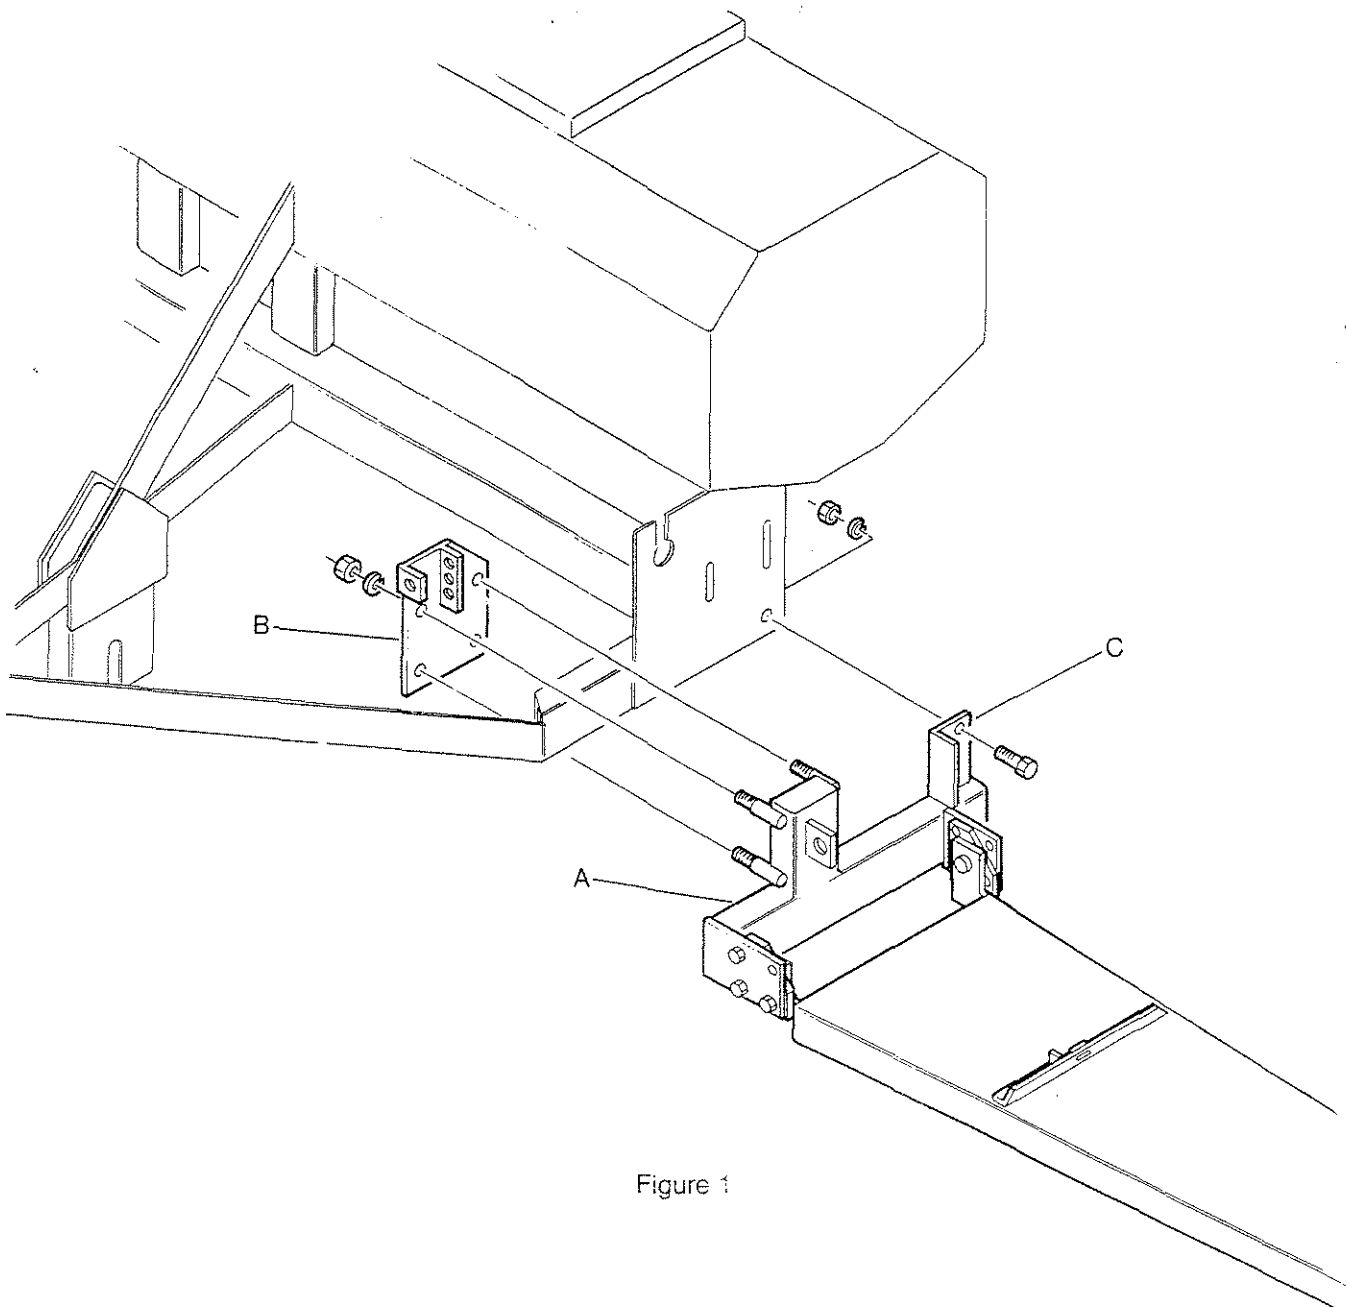

Figure 1
1. Support Marker horizontally at level of drill box. Attach Marker Main Mount (A) around horizontal 2" x 4" tube and slide into Mounting Plate (B). Hand tighten four  $\frac{3}{4}$ " lockwashers and hex nuts (see fig.1).
2. Align hole in Main Mount Angle (C) to rear hole in box End Plate and attach with a  $\frac{5}{8}$ " x 1 $\frac{1}{2}$ " long bolt, lock-washer and hex nut (fig. 1). Secure all hex nuts.